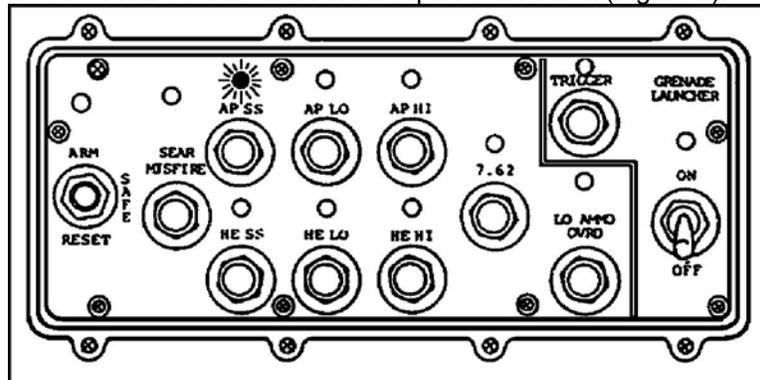

Figure 2. AP SS button and indicator.
- d. Push the AP SS or HE SS button on the weapon control box (Figure 2).